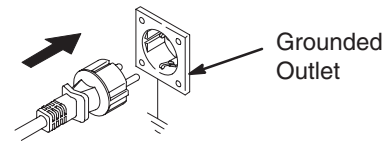

Fig. 3
1. This equipment requires a 230 Vac, 50 Hz, 10A circuit with a grounding receptacle. See Fig. 3.